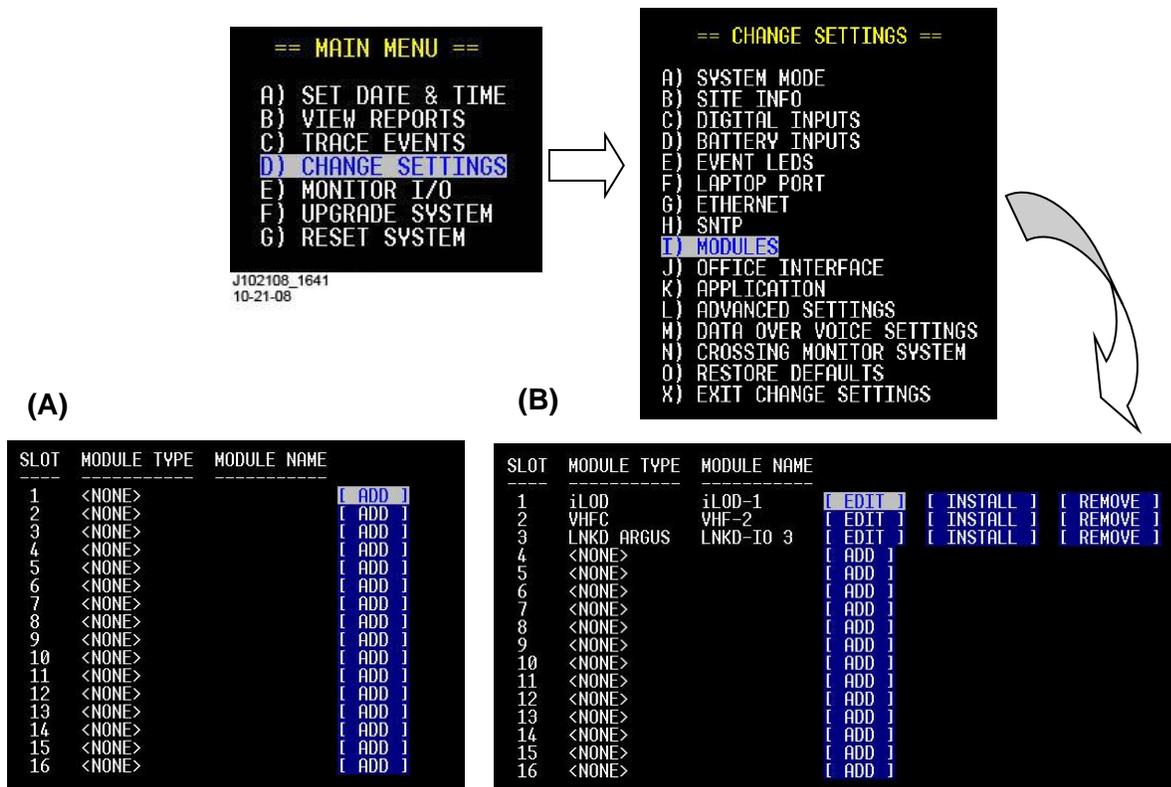

Figure 16: [Terminal] Module Screens
If no modules have been added, the screen will look like Figure 16 (A). If modules have been previously added, the screen may look like the example in Figure 16 (B).